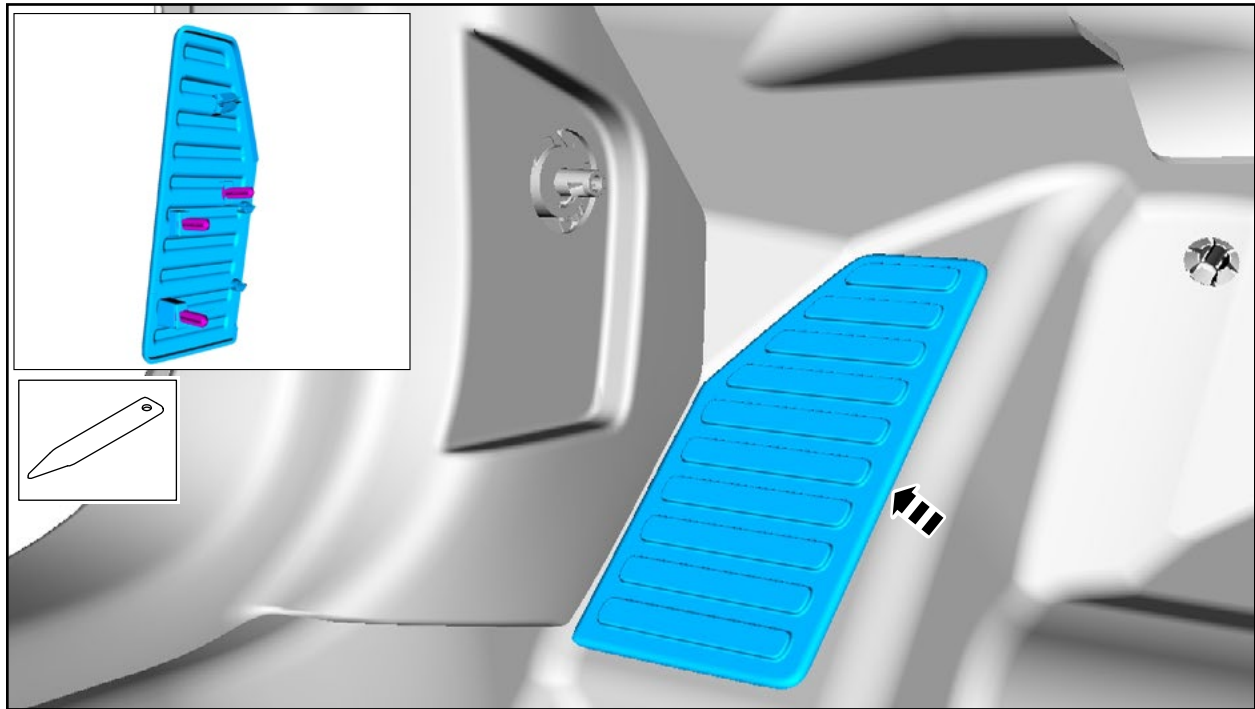

FIGURE 3
5. Remove the foot rest pad. See Figure 3.